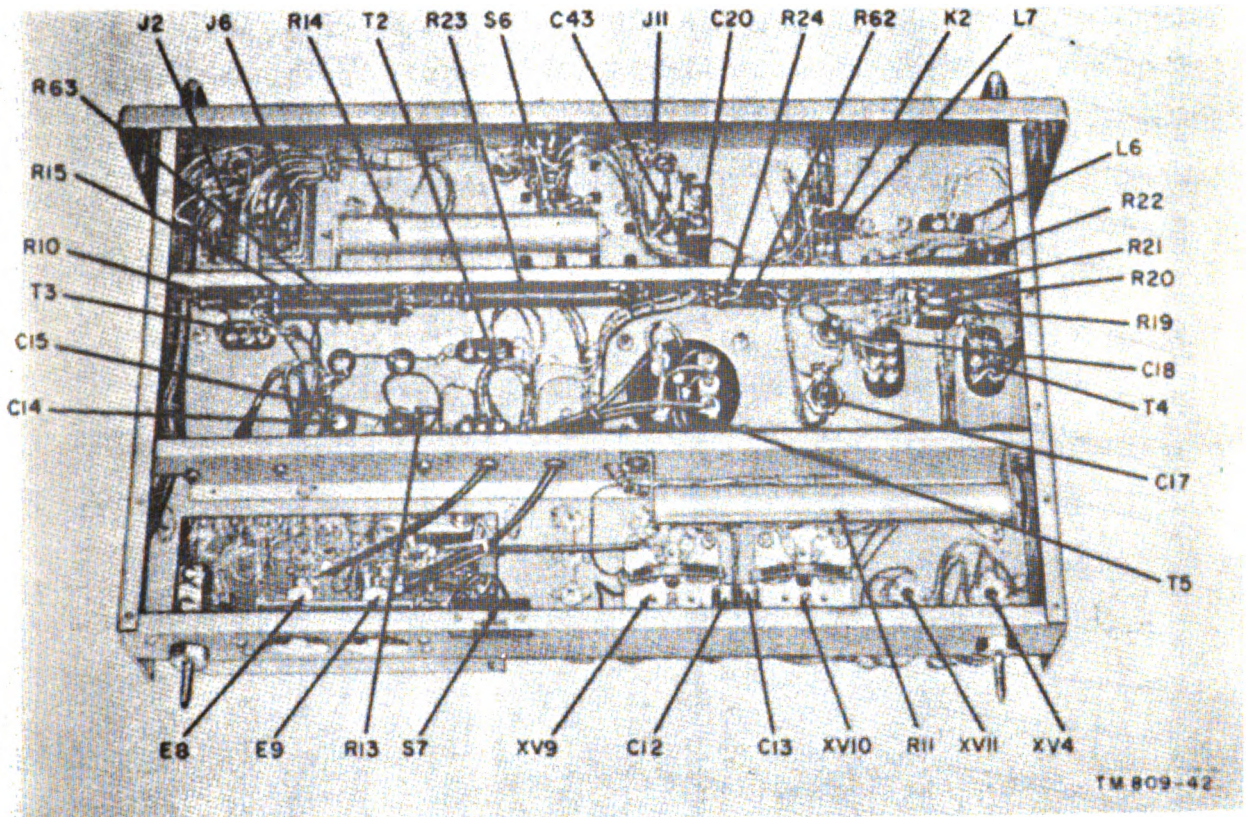

Figure 64. Modulator deck, bottom view, basic model transmitters.
d. Disconnect plug P2 from J2 (fig. 64) and check resistance from pin 4 or 6 of T2 to ground. A reading of approximately 200 ohms should be obtained. This checks the filament circuit of modulator tubes V9 and V10.